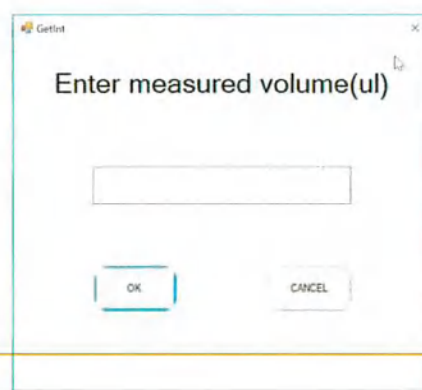

Figure 65
9.5.7.12 After dosing, the probe will move to its original position and a pop-up window will appear for entering the measured volume of water [Figure 65].